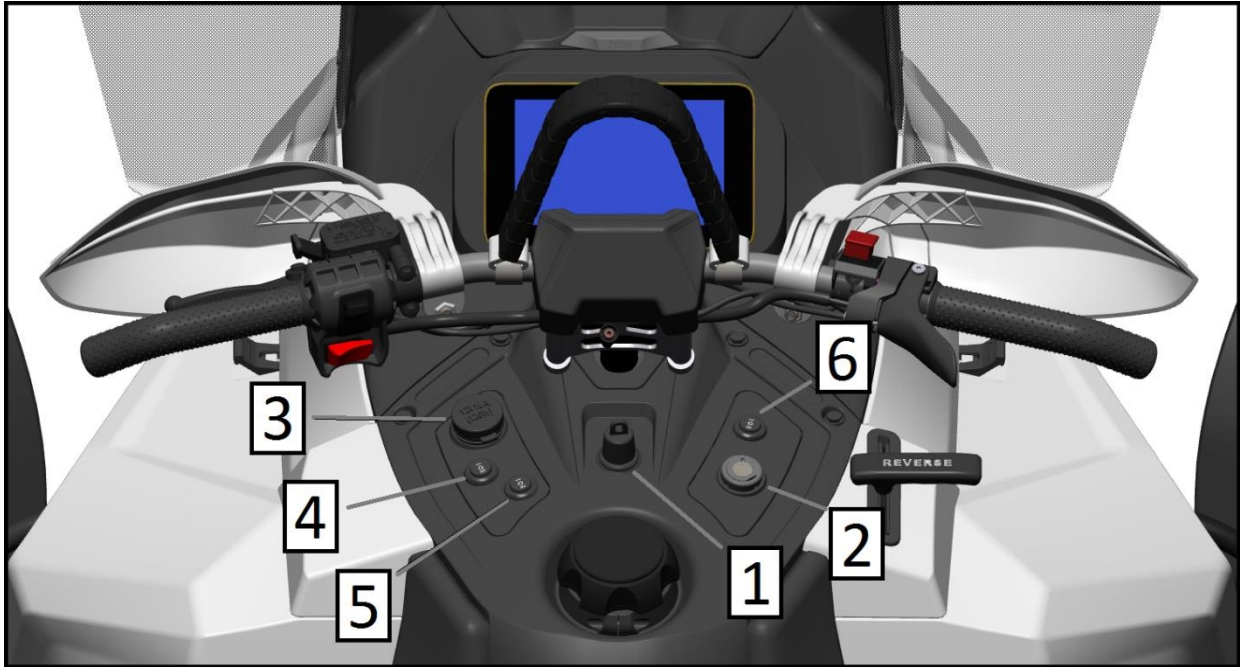

Fig. 8
Insert the key (Figure 8, item 2) into the lock and check the indicator position clockwise , "Ignition switch", enabling the electronic components of the snowmobile. The instrument panel will prompt the opening of the electronic circuit, and you will also hear the unique sound of the fuel pump. Depending on the position of the headlamp switch, the headlamp will automatically turn on when the ignition switch is turned. The function of the headlights when the engine starts may vary depending on the equipment.
The heating element switches of the steering handle (Figure 8, Position 4) and throttle handle (Figure 8, Position 5) are located at the rear of the front panel on the left side of the steering column.
The heating element on button of the passenger handle (Figure 8, bit 6) is located at the rear of the front panel on the right side of the driving column.